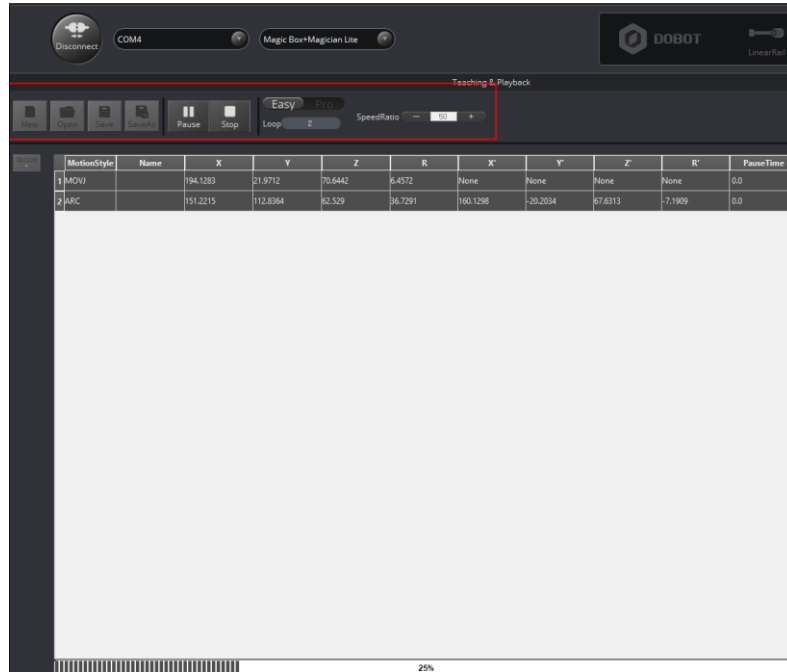

Figure 5.22 Move the small cube in the ARC motion mode
- Step 5** Click **Start**. Magician Lite performs the sequence of ARC trajectory as taught from its memory system, moving from positions A through C, as shown in Figure 5.22.